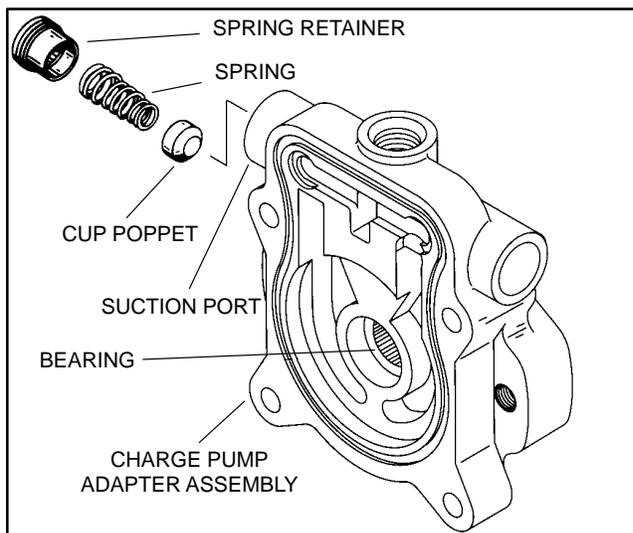
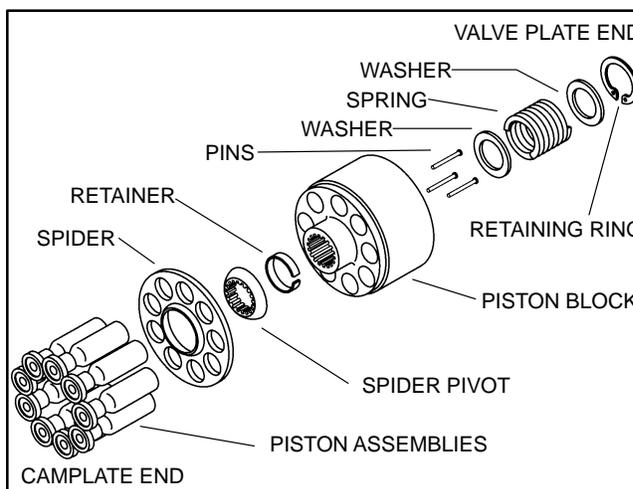
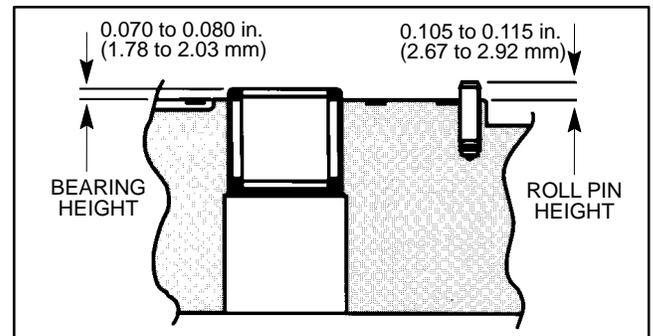
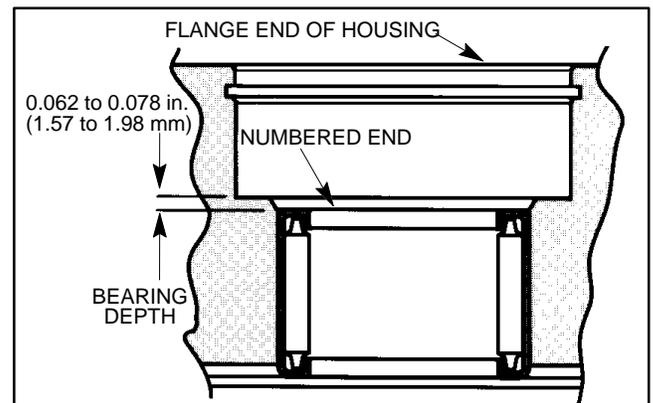

Figure 25
Figure 26
Figure 28
Figure 29
2. Remove cap screws (1 and 27) and slide charge pump adapter assembly (2) from the backplate assembly (25) clear of the shaft (31) and gerotor assembly (3).
3. Remove O-ring (26) from the charge pump adapter assembly (2).
4. Remove outer ring from either the inner ring of the gerotor assembly (3) or the charge pump adapter assembly (2). Further disassembly of the gerotor assembly is not necessary.
5. The charge pump adapter assembly (2) can be disassembled as follows (see Fig. 25):
6. Remove gerotor assembly (3) inner ring and coupler from the shaft (31).
7. Lift backplate assembly (25) up and off from the shaft (31) and housing assembly (15). Remove valve plate (6) from the backplate assembly or rotating parts kit (29).
8. Remove valve assembly (5) and O-rings (38 and 39) from the backplate assembly (25). Disassembly of the valve assembly is not necessary.
9. Remove both plugs (21), O-rings (40), spring (22), and seats (23) from the backplate assembly (25).
10. Remove gasket (24) from the housing (15) or backplate assembly (25).
**Note:** To remove the rotating parts kit (29) from the shaft (31), a table or workbench with a hole in the working surface is required for the protruding shaft.
11. The rotating parts kit (29) can be removed from the shaft (31) as follows:
- A. Hold rotating parts kit (29) in place and remove the pump from the vise.
- B. Position the housing assembly (15) end of the pump up and lower the shaft (31) through the hole in the table or workbench. Allow rotating parts kit (29) to rest on the table.
- C. Remove rotating parts kit (29) by lifting away the housing assembly (15) and shaft (31).
12. The rotating parts kit (29) can be disassembled as follows (see Fig. 26):
2. Inspect charge pump adapter assembly (see Fig. 25).
A. Bearing needles must remain in bearing cage and move freely. Verify that bearing height on the numbered end meets the dimension in Figure 28.
B. Check that the roll pin is tight and meets the height in Figure 28.
A. Verify that bearing depth on the numbered end meets the dimension in Figure 29.
6. Inspect rotating parts kit (see Fig. 26).
2. If necessary, press new bearing (14) into housing assembly (15) to the dimension shown in Figure 29.
3. Insert camplate (20) into the housing assembly (15).
4. On the short trunnion side of the camplate (20), install bearing (13) with numbered side to the inside of the pump. Install inner race (12) with the chamfer towards the inside of the pump. Install washer (11), O-ring (10), O-ring cover (9), and trunnion cover (8). Secure trunnion cover with two screws (7) torque them from 36 to 48 in-lb (42 to 55 kg-cm).
5. On the long trunnion side of the camplate (20), install bearing (13) with numbered side to the inside of the pump. Install washer (11) and press shaft seal (17) into place. Secure seal cover (16) with two screws (7) and torque them from 36 to 48 in-lb (42 to 55 kg-cm).
6. Install retaining ring (32) towards the keyed end of the shaft (31). Slide washer (33), thrust bearing (34), second washer (33), and second retaining ring (32) into place over the splined end of the shaft.
7. Position washer (35) and shaft seal (36) onto the shaft (31) from the keyed end.
8. Install shaft (31) into the housing assembly (15) from the flanged end. Press shaft seal (36) into position with a seal driver. Install retaining ring (37) into the flanged end of the housing assembly (15).
9. Reassemble rotating parts kit as follows (Fig. 26):
10. Set rotating kit assembly (29) on a working surface with the piston shoes facing up. Insert shaft (31) through the rotating kit assembly with the flanged end of the housing assembly up. Position rotating kit assembly into the housing assembly.
11. Make sure piston block and shaft (31) splines are aligned. Make sure piston block is engaged fully so the piston shoes are in contact with the camplate (20). **Make sure all parts are in their proper position before proceeding to the next step.**